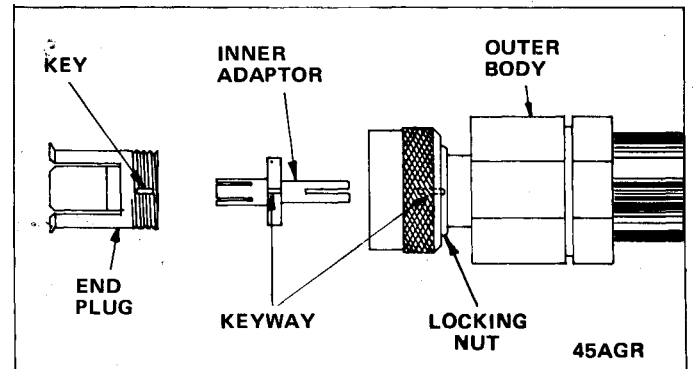

FIGURE 5
STEP 5. 45AGR ONLY. Gently place inner adaptor into base of GR connector on outer body, and engage it with inner connector. Refer to Figure 5. Use right turning motion to aid engagement. Align keyway in insulator with keyway in GR connector, then push adaptor toward outer body. Align key on end plug with keyways, then slide plug into position. Tighten plug in place with locking nut.